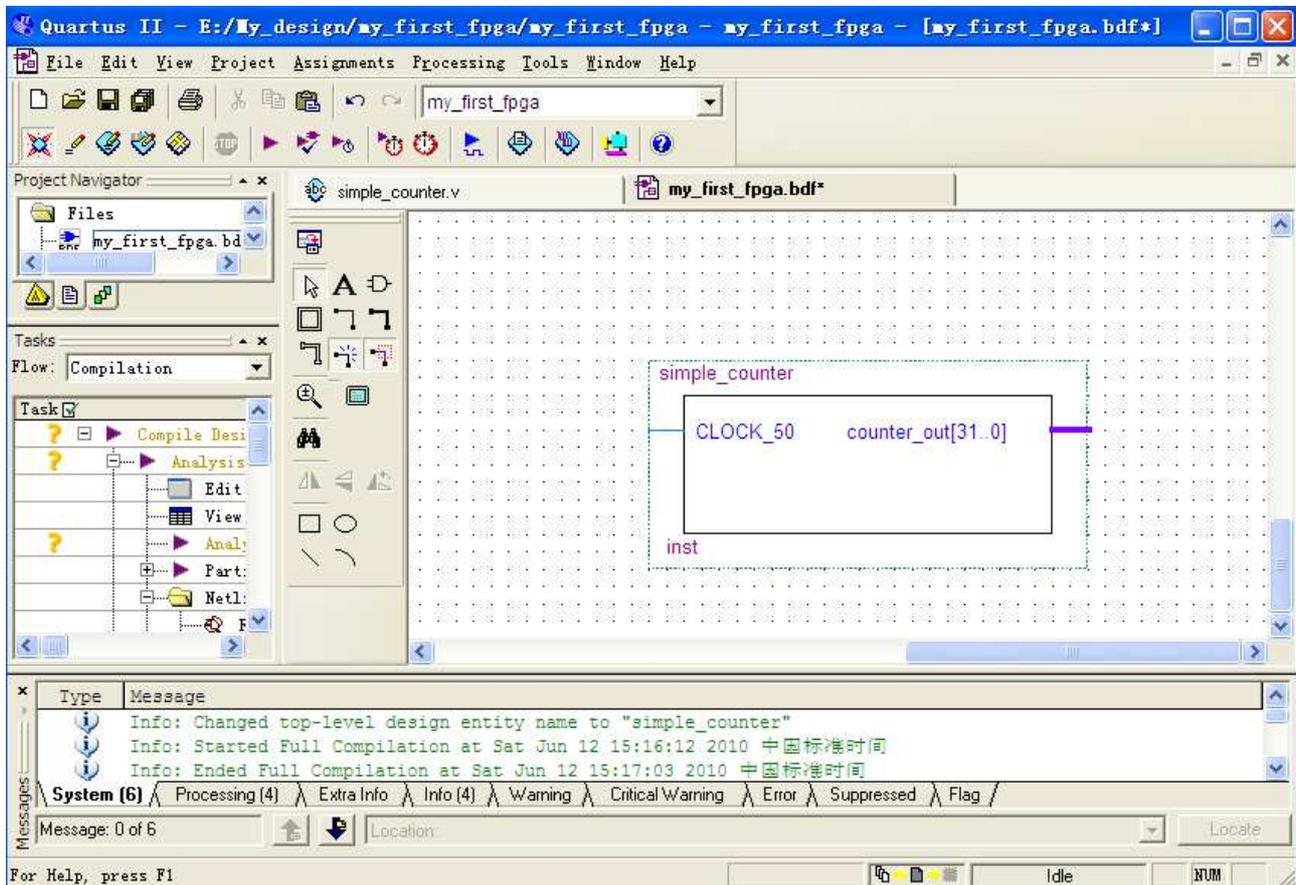

Figure 3-7 Placing the `simple_counter` symbol
17. Move the cursor to the BDF grid; the symbol image moves with the cursor. Click to place the `simple_counter` symbol onto the BDF. You can move the block after placing it by simply clicking and dragging it to where you want it and releasing the mouse button to place it. See Figure 3-7.